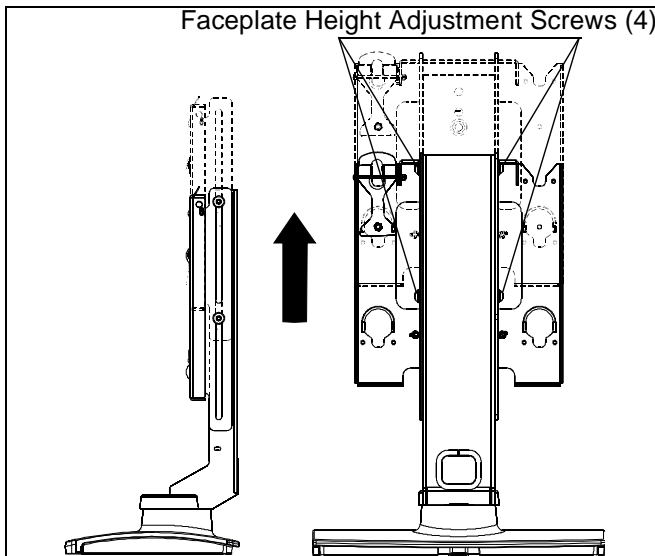

Figure 2
1. Loosen the four height adjustment screws and raise the slide to its maximum height. (See Figure 2)
6. Secure slide plate in place by tightening the four height adjustment screws. (See Figure 2)